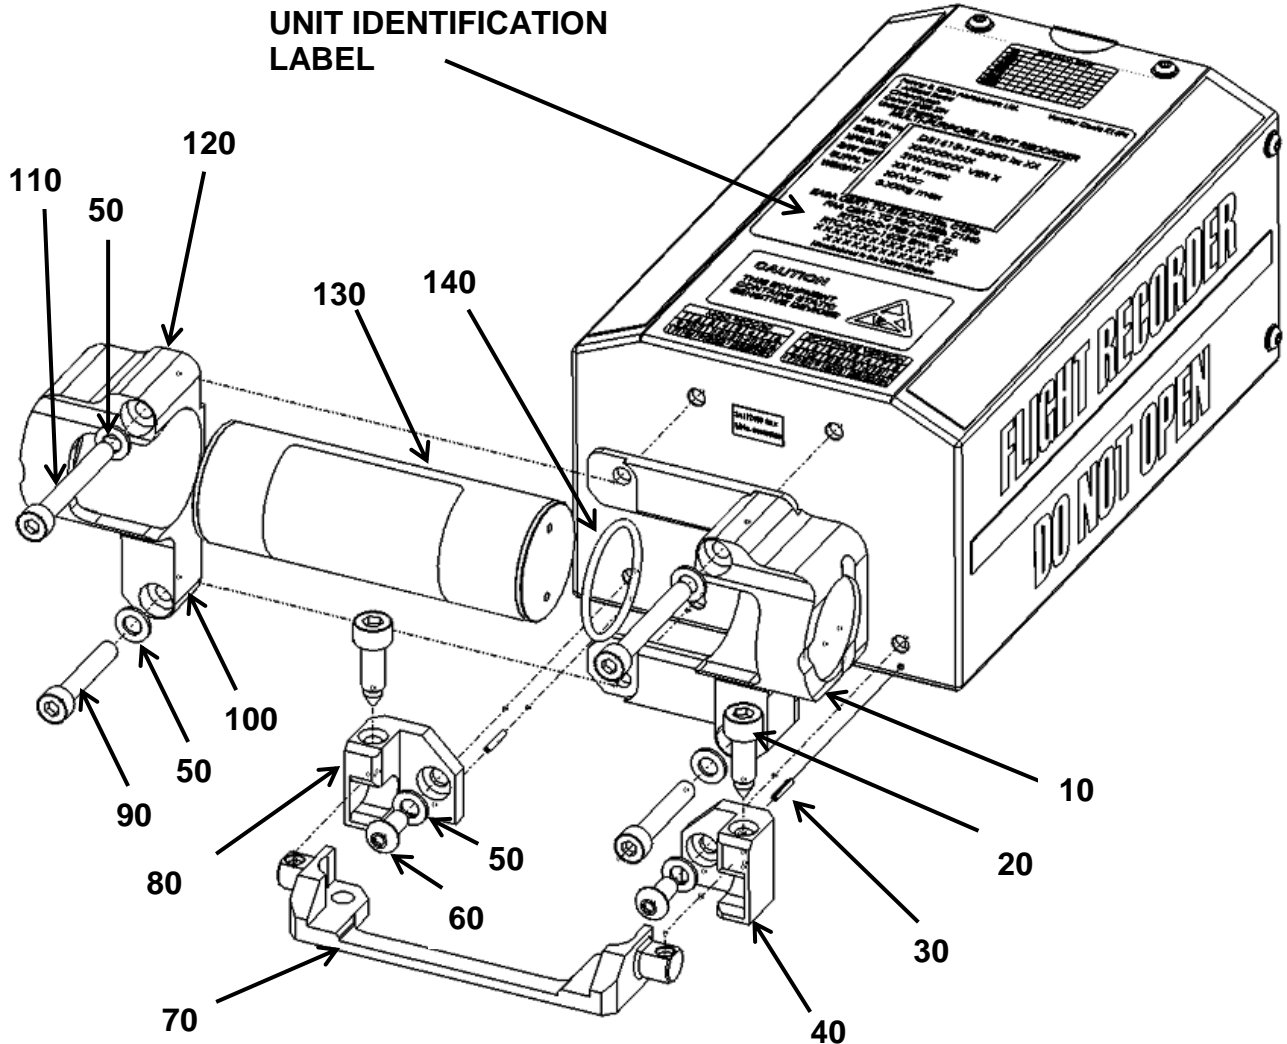

Figure 2 – 90-Day Beacon Mounting Arrangement
### 1.2 Beacon Fitting (Refer to Figure 2)
- 6) Fit the Silicone rubber cord (140) into the bore of the appropriate mounting bracket into which the base of the beacon (130) is to be located (see Figure 2).
- 8) Secure LH bracket (120) to the recorder using screws (90), (110) and washers (50). See steps 3 & 4 above.
**Note:** Ensure all beacon mounting bracket parts are correctly located before tightening the mounting bracket retaining screws (90) & (110) to 6.5-7.0Nm.